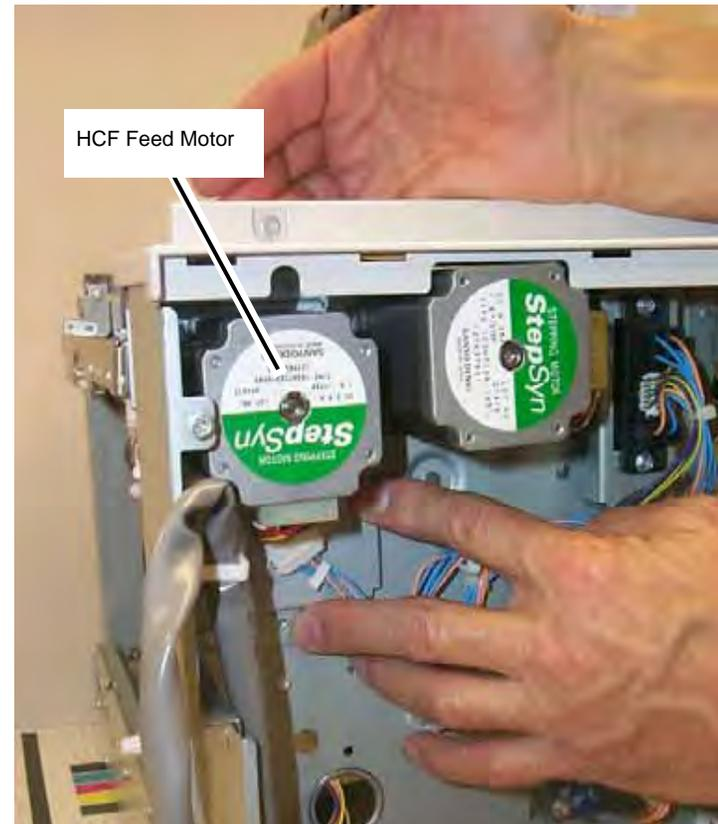

Figure 1 Removing the HCF Feed Motor
4. Supporting the motor with one hand, remove the HCF Feed Motor (Figure 1).
- Disconnect the electrical Connector (1).
- Remove the (2) securing screws.